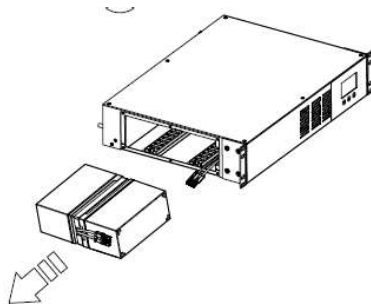

Figure 8
4. Remove the internal battery module from the UPS by pulling on the tab or by using the module connector. (**FIG. 8**)